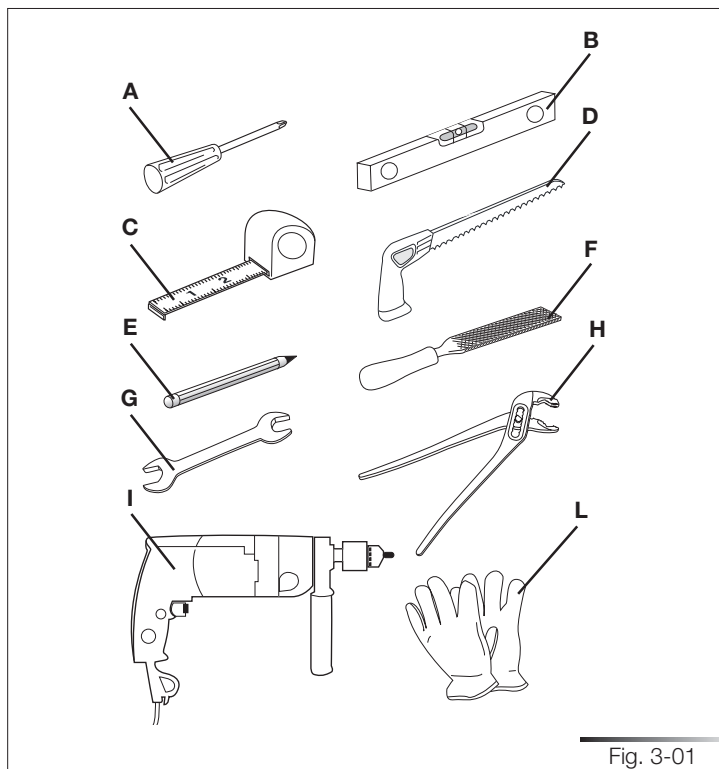

Fig. 3-01
- Phillips screwdriver (ref. A fig. 3-01);
- spirit level (ref. B fig. 3-01);
- tape measure (ref. C fig. 3-01);
- compass saw (ref. D fig. 3-01);
- pencil (ref. E fig. 3-01);
- file (ref. F fig. 3-01);
- 13 mm open-ended wrench (ref. G fig. 3-01);
- plumbing pliers (ref. H fig. 3-01);
- drill (ref. I fig. 3-01);
- safety gloves (ref. L fig. 3-01).